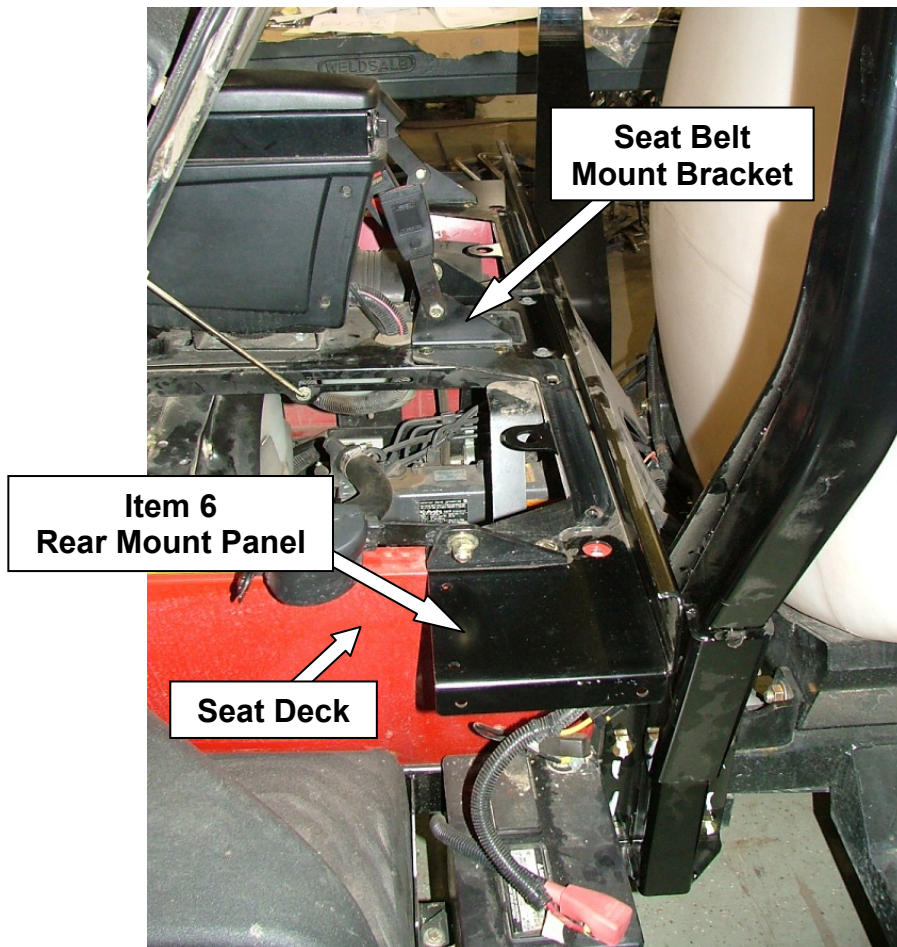

Figure 3
5. Place rear mount panel (Item 6) onto seat deck and re-install seatbelt mount brackets reusing hardware (**Figure 3**).